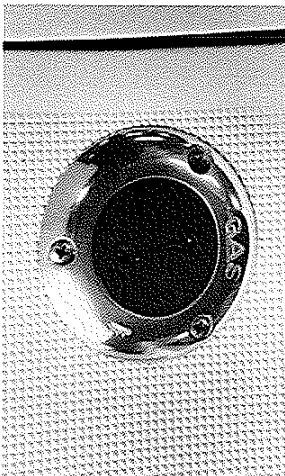

Figure 14
5. A special key to unlock the fuel cap is given to you. Insert the key in the slot in the fuel cap. The fuel cap is in the covering board on the port side of the boat. See figure 14.